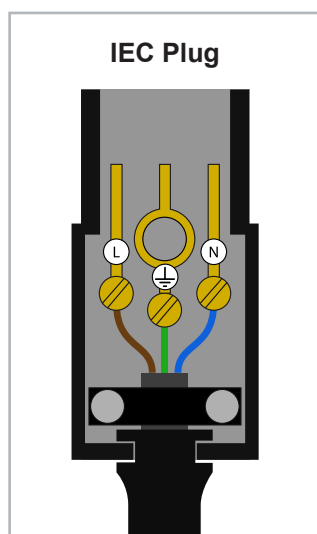

Figure 2.
3. Remove the IEC plug from the controller (See Fig 2.).
6. Wire the mains power cable into the IEC plug (See Fig 2.).